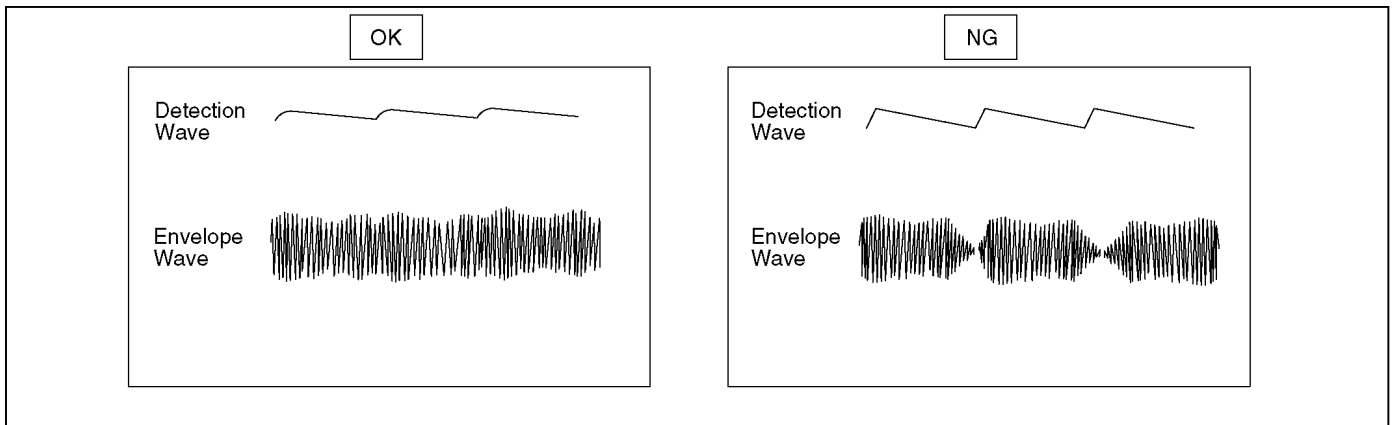

Fig. D4
5. The post is adjusted with the post driver(VFK1899) so that recycles the normal tape which recorded NTSC signal and the detection wave-link become a flat as shown in Fig. D4.